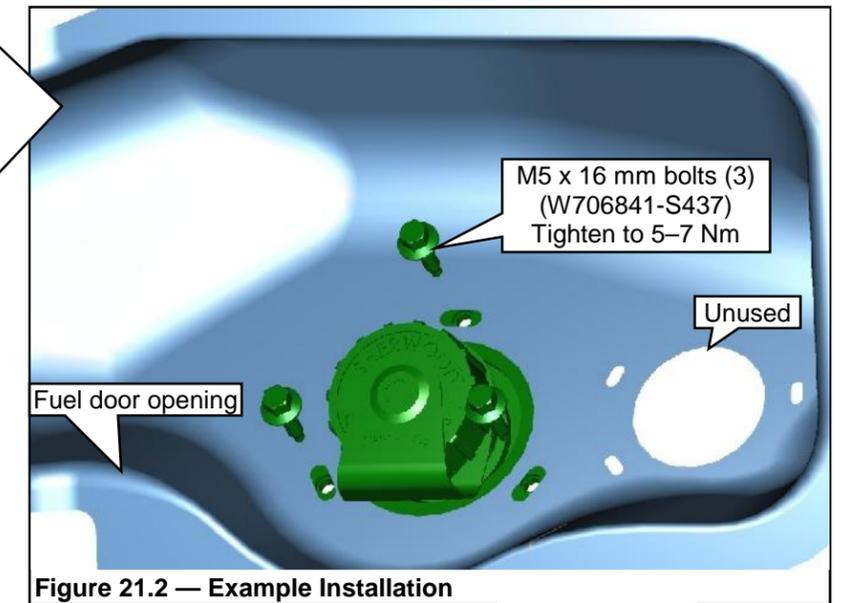

Figure 21.2 — Example Installation
2. If applicable, install fuel fill valve and fuel fill bracket behind factory fill area using three M5 x 16 mm bolts and washers. Tighten the bolts to 5–7 Nm. **Figure 21.2** and **20.3**.